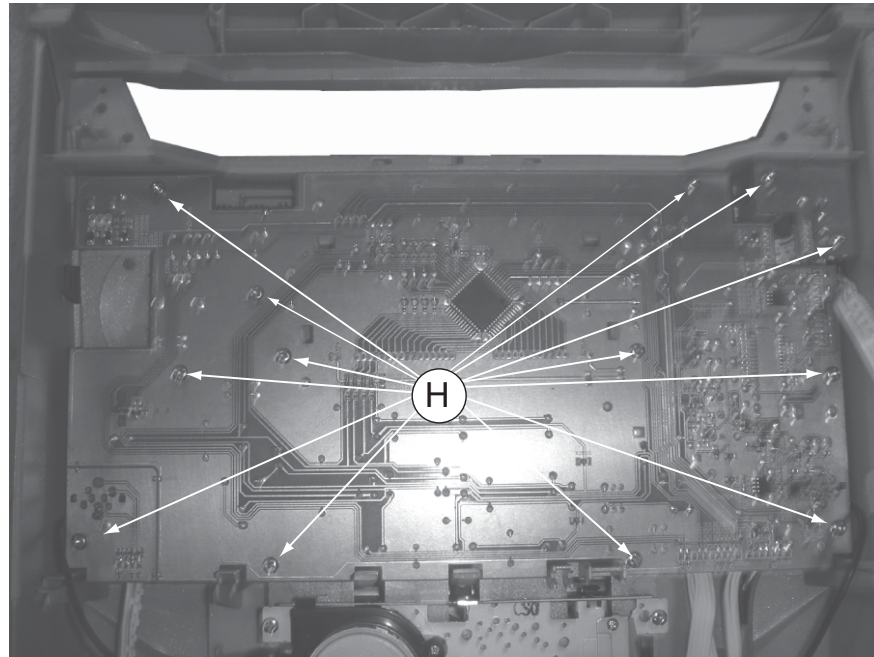

Figure 12
1) Loosen 13 screws 'H' to remove the KEY board figure 12.